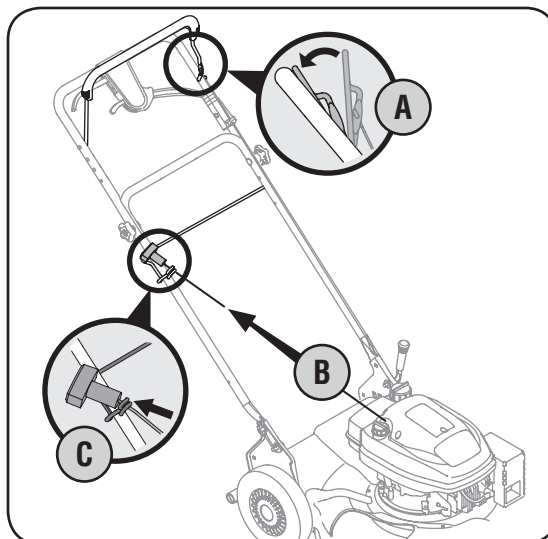

Figure 3
3. The rope guide (pigs tail) is part of the grass catcher support rod attached to the lower handle. See Figure 3.